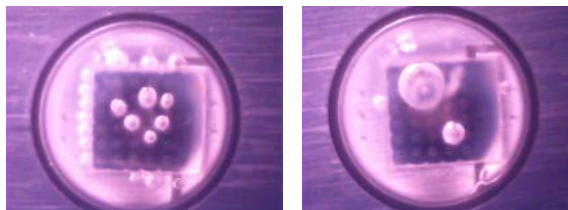

FIG 9. Examples of bubble formation due to overheating
- When soldering, do not use a none calibrated hot plate. A convection type reflow oven is preferred. (Fig 9.)